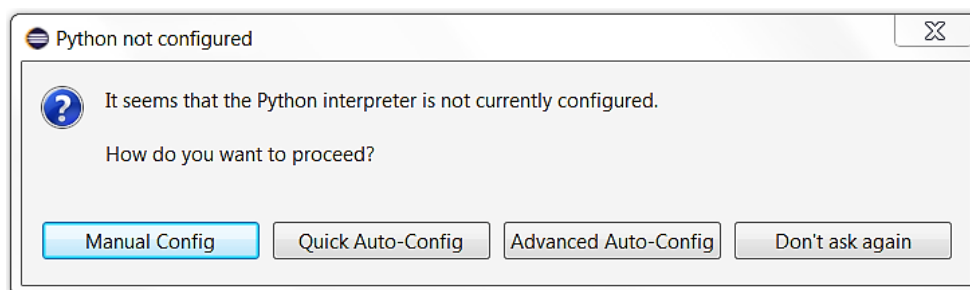

Figure 26: Configuring PyDev (continued)
- A selection box will appear, choose Manual Config (Figure 26)